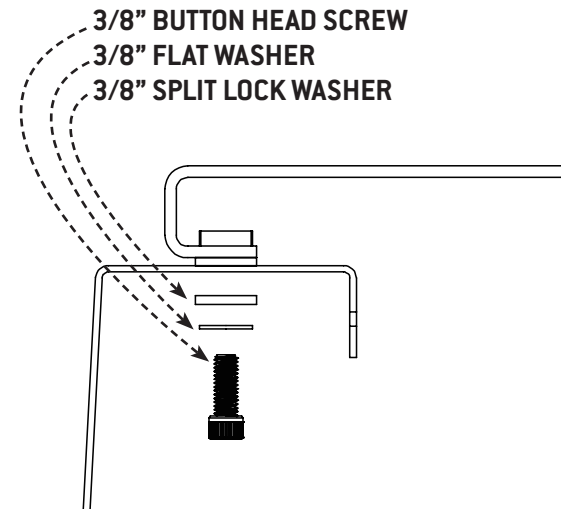

FIG 8
3.1 Once you have the bed rails up and fully mounted, you can simply place the bed panels on and fasten them to the rails using the **3/8-16" Socket Cap Screws, 3/8" Flat Washers and 3/8" Split Lock Washer (FIG 8)**.